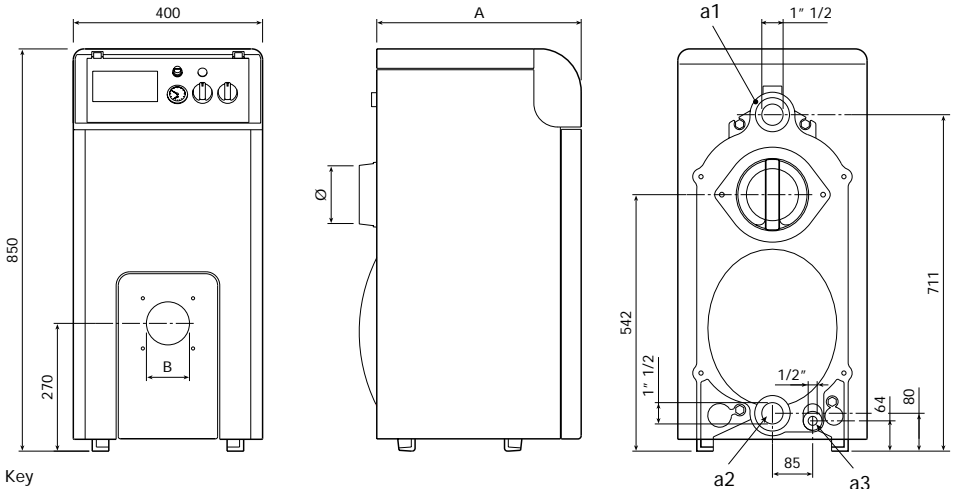

Fig. 2
2.01 Dimensions and technical data (fig. 2 - tab. 1)
Boiler must be connected to the system according to boiler back part indications and those provided at fig. 2. Pipe must be free of any kind of strain and security valves must be provided in both central heating system and domestic hot water system location of such security valves be as close as possible to the boiler and between the boiler and valve no obstructions or gate valves must be placed.